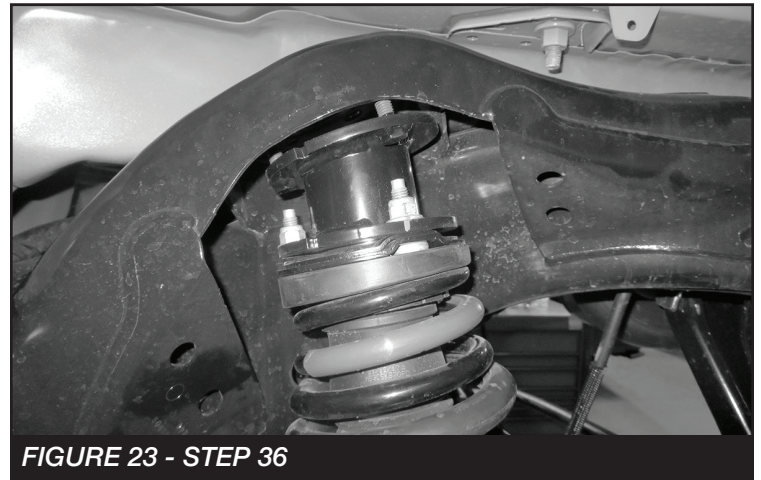

FIGURE 23 - STEP 36
36. Install the strut into the vehicle using the supplied 3/8" nuts & washers for the upper mount and the factory hardware for the lower mount. Torque the upper 3/8" hardware to 35 ft-lbs and the lower factory hardware to 160 ft-lbs. **SEE FIGURE 23**
39. Disconnect the hard brakeline bracket from the passenger side link mount. Reinstall the bracket using FT161 (Sleeve) and the supplied M8 x 50mm bolt and washers. Torque to 12 ft-lbs. **SEE FIGURE 23**